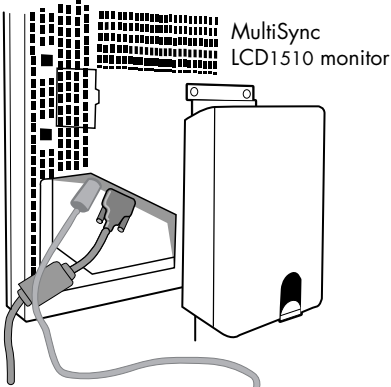

Figure C.1
3. **For the MultiSync LCD1510 and MultiSync LCD1510V:** Connect the 15-pin mini D SUB of the video signal cable and AC Adapter cable to the appropriate connectors on the back of the monitor (Figure C.1).